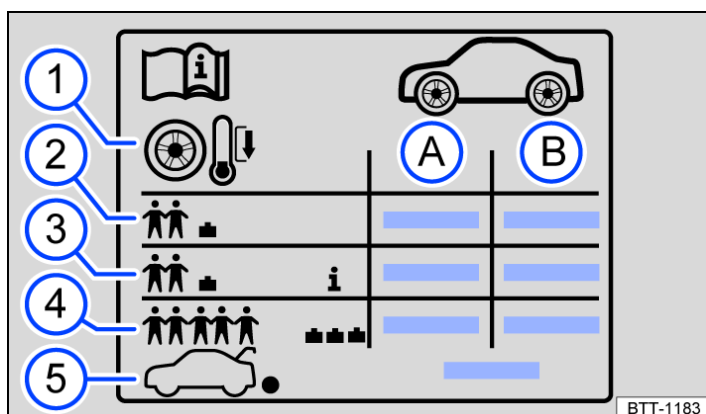

Fig. 1 Symbols on the tyre pressure sticker.
- Always adjust the tyre pressure to the load level → *Fig. 1*.